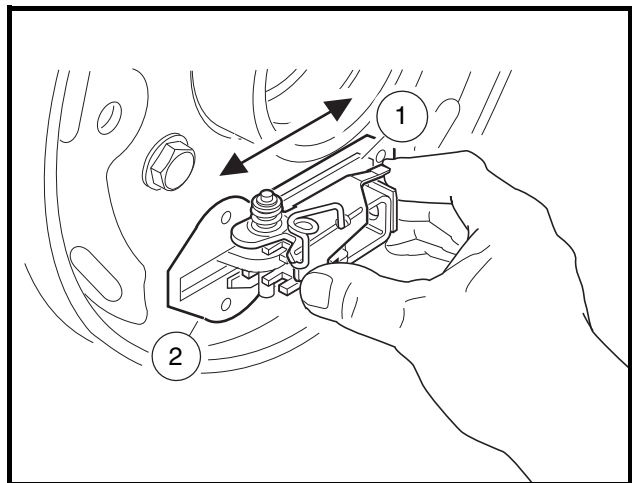

Figure 6-7 Lubricate Slide
3. Lubricate the slide (1) and slide plate (2) with dry moly lubricant (CC P/N 1012151) on both sides of the backing plate. After lubricating, work the slide back and forth to ensure it slides smoothly and easily (**Figure 6-7, Page 6-3**). Reinstall rubber boot onto backing plate.